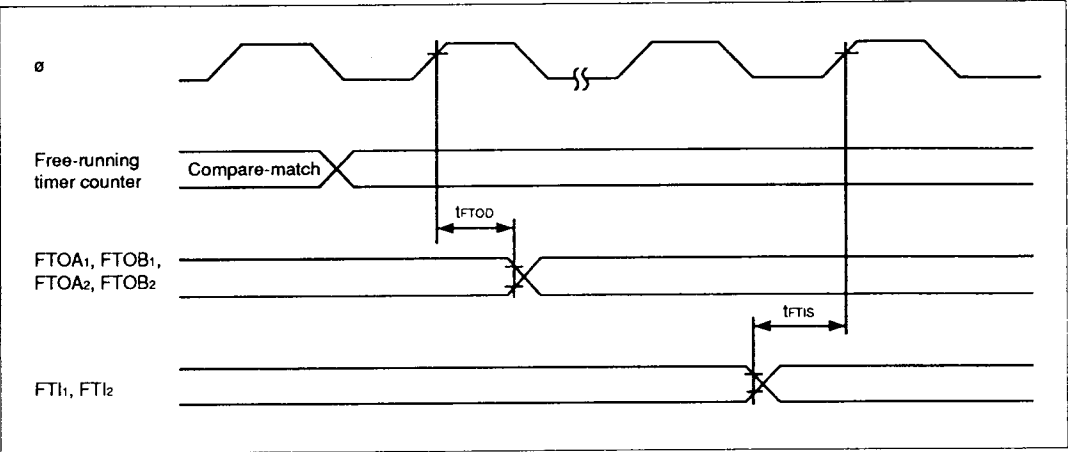

Figure 18-11 Free-Running Timer Input/Output Timing
18.3.5 16-Bit Free-Running Timer Timing	Figures 18-11 and 18-12